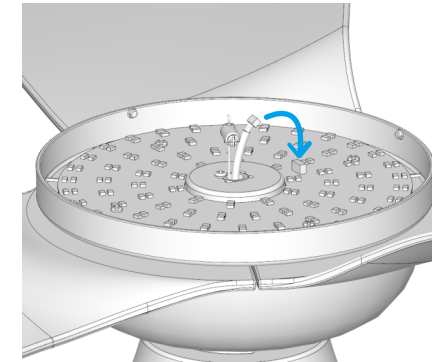

Fig. 3.3
3.3 Connect the wire plug to the light kit's terminal block as demonstrated in Fig. 3.3.